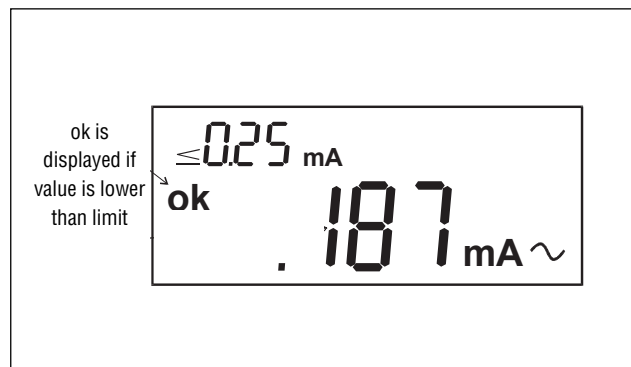

Fig. 7.26
- LCD indicates phase position at left connection of Test Mains Socket, i.e. indicating the position of phase polarity. L and N connection assignment may be opposite (depending on mains cable connection of UNITEST MACHINEmaster). Display of measurement value after approx. 1 s (Fig.7.26).